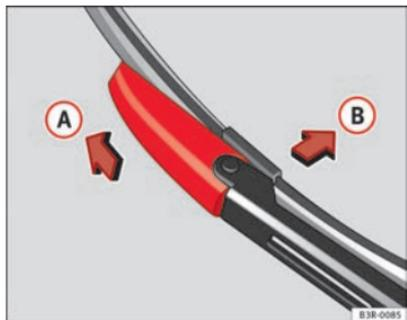

Fig. 174 Removing the wiper blade
- Slide the retainers on the wiper blade in the direction indicated \Rightarrow Fig. 174 (A). Hold onto the wiper blade at the same time.
- Pull the wiper blade (B) out of its mounting on the wiper arm.